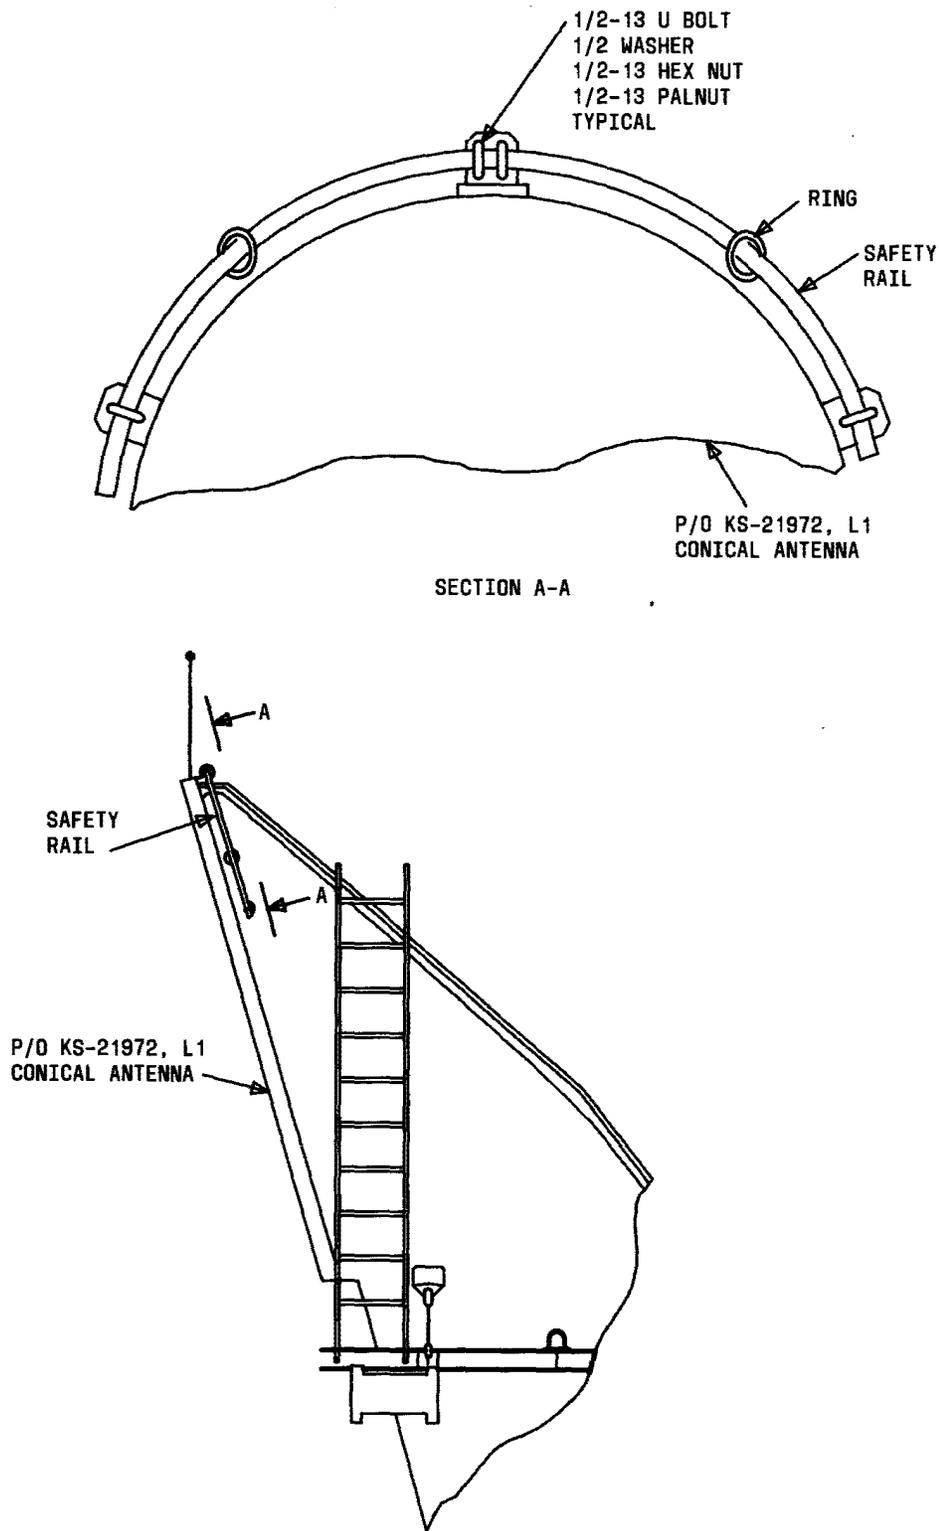

Fig. 7—Assembly of the KS-21972, L1 Conical Antenna and L9 Safety Rail
G. Assembly of List 9 to List 1 (See Fig. 7)